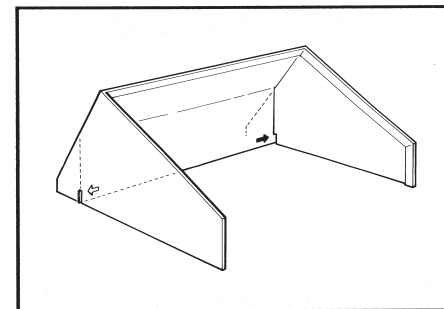

Fig. 2
3. Unfold the spray hood as shown in Fig. 2, and insert the two tabs into the slots.